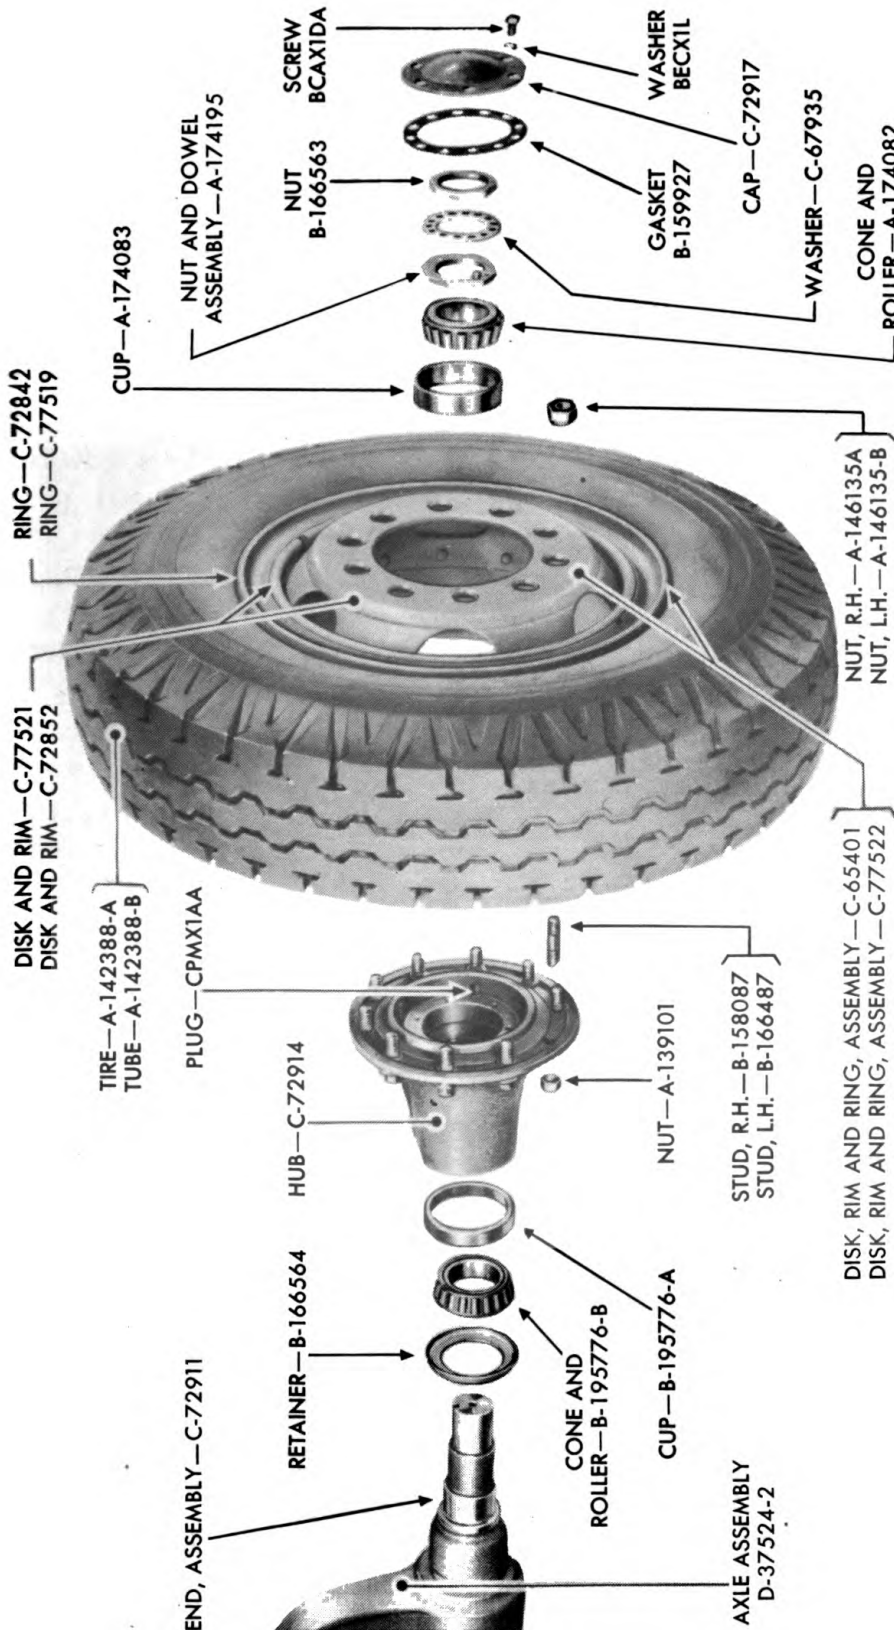

Figure 330—Wheel, Hub, and Bearings—Exploded View
(1) Remove screw BCAX1CB and lock washer BECX1K that hold locking pin plate A173458 to trail base and lift off locking pin plate.
(2) Pull trail locking pin out of trail base. **NOTE:** Handle is welded to trail locking pin.
s. Remove Wheels and Hubs (fig. 330). The procedure for removal of limber disk and rim wheels and hubs is similar to that for bogie outer wheels and hubs. Note, however, that mounting of studs and cap nuts is opposite to that for bogie wheels. In the limber, right-hand threads are used on right side, and left-hand threads are used on left side. Cap nuts and wheel studs are marked "R" or "L."
(1) Remove oil retainer B166564 (inner), taper roller bearing